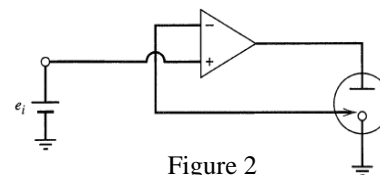

Figure 2
Q.3.a. An alternative potentiostatic circuit is shown in Figure 2. What simple amplifier circuit is it based on? Identify the voltage input point and its relationship with voltage output. [1+1+2]